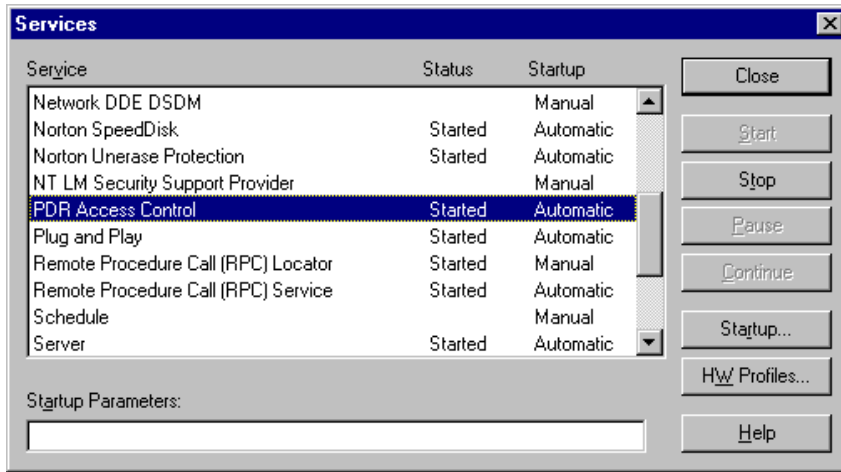

Figure 114. Services dialog box
4. Double-click the **Services** icon. The Services dialog box appears (Figure 114).